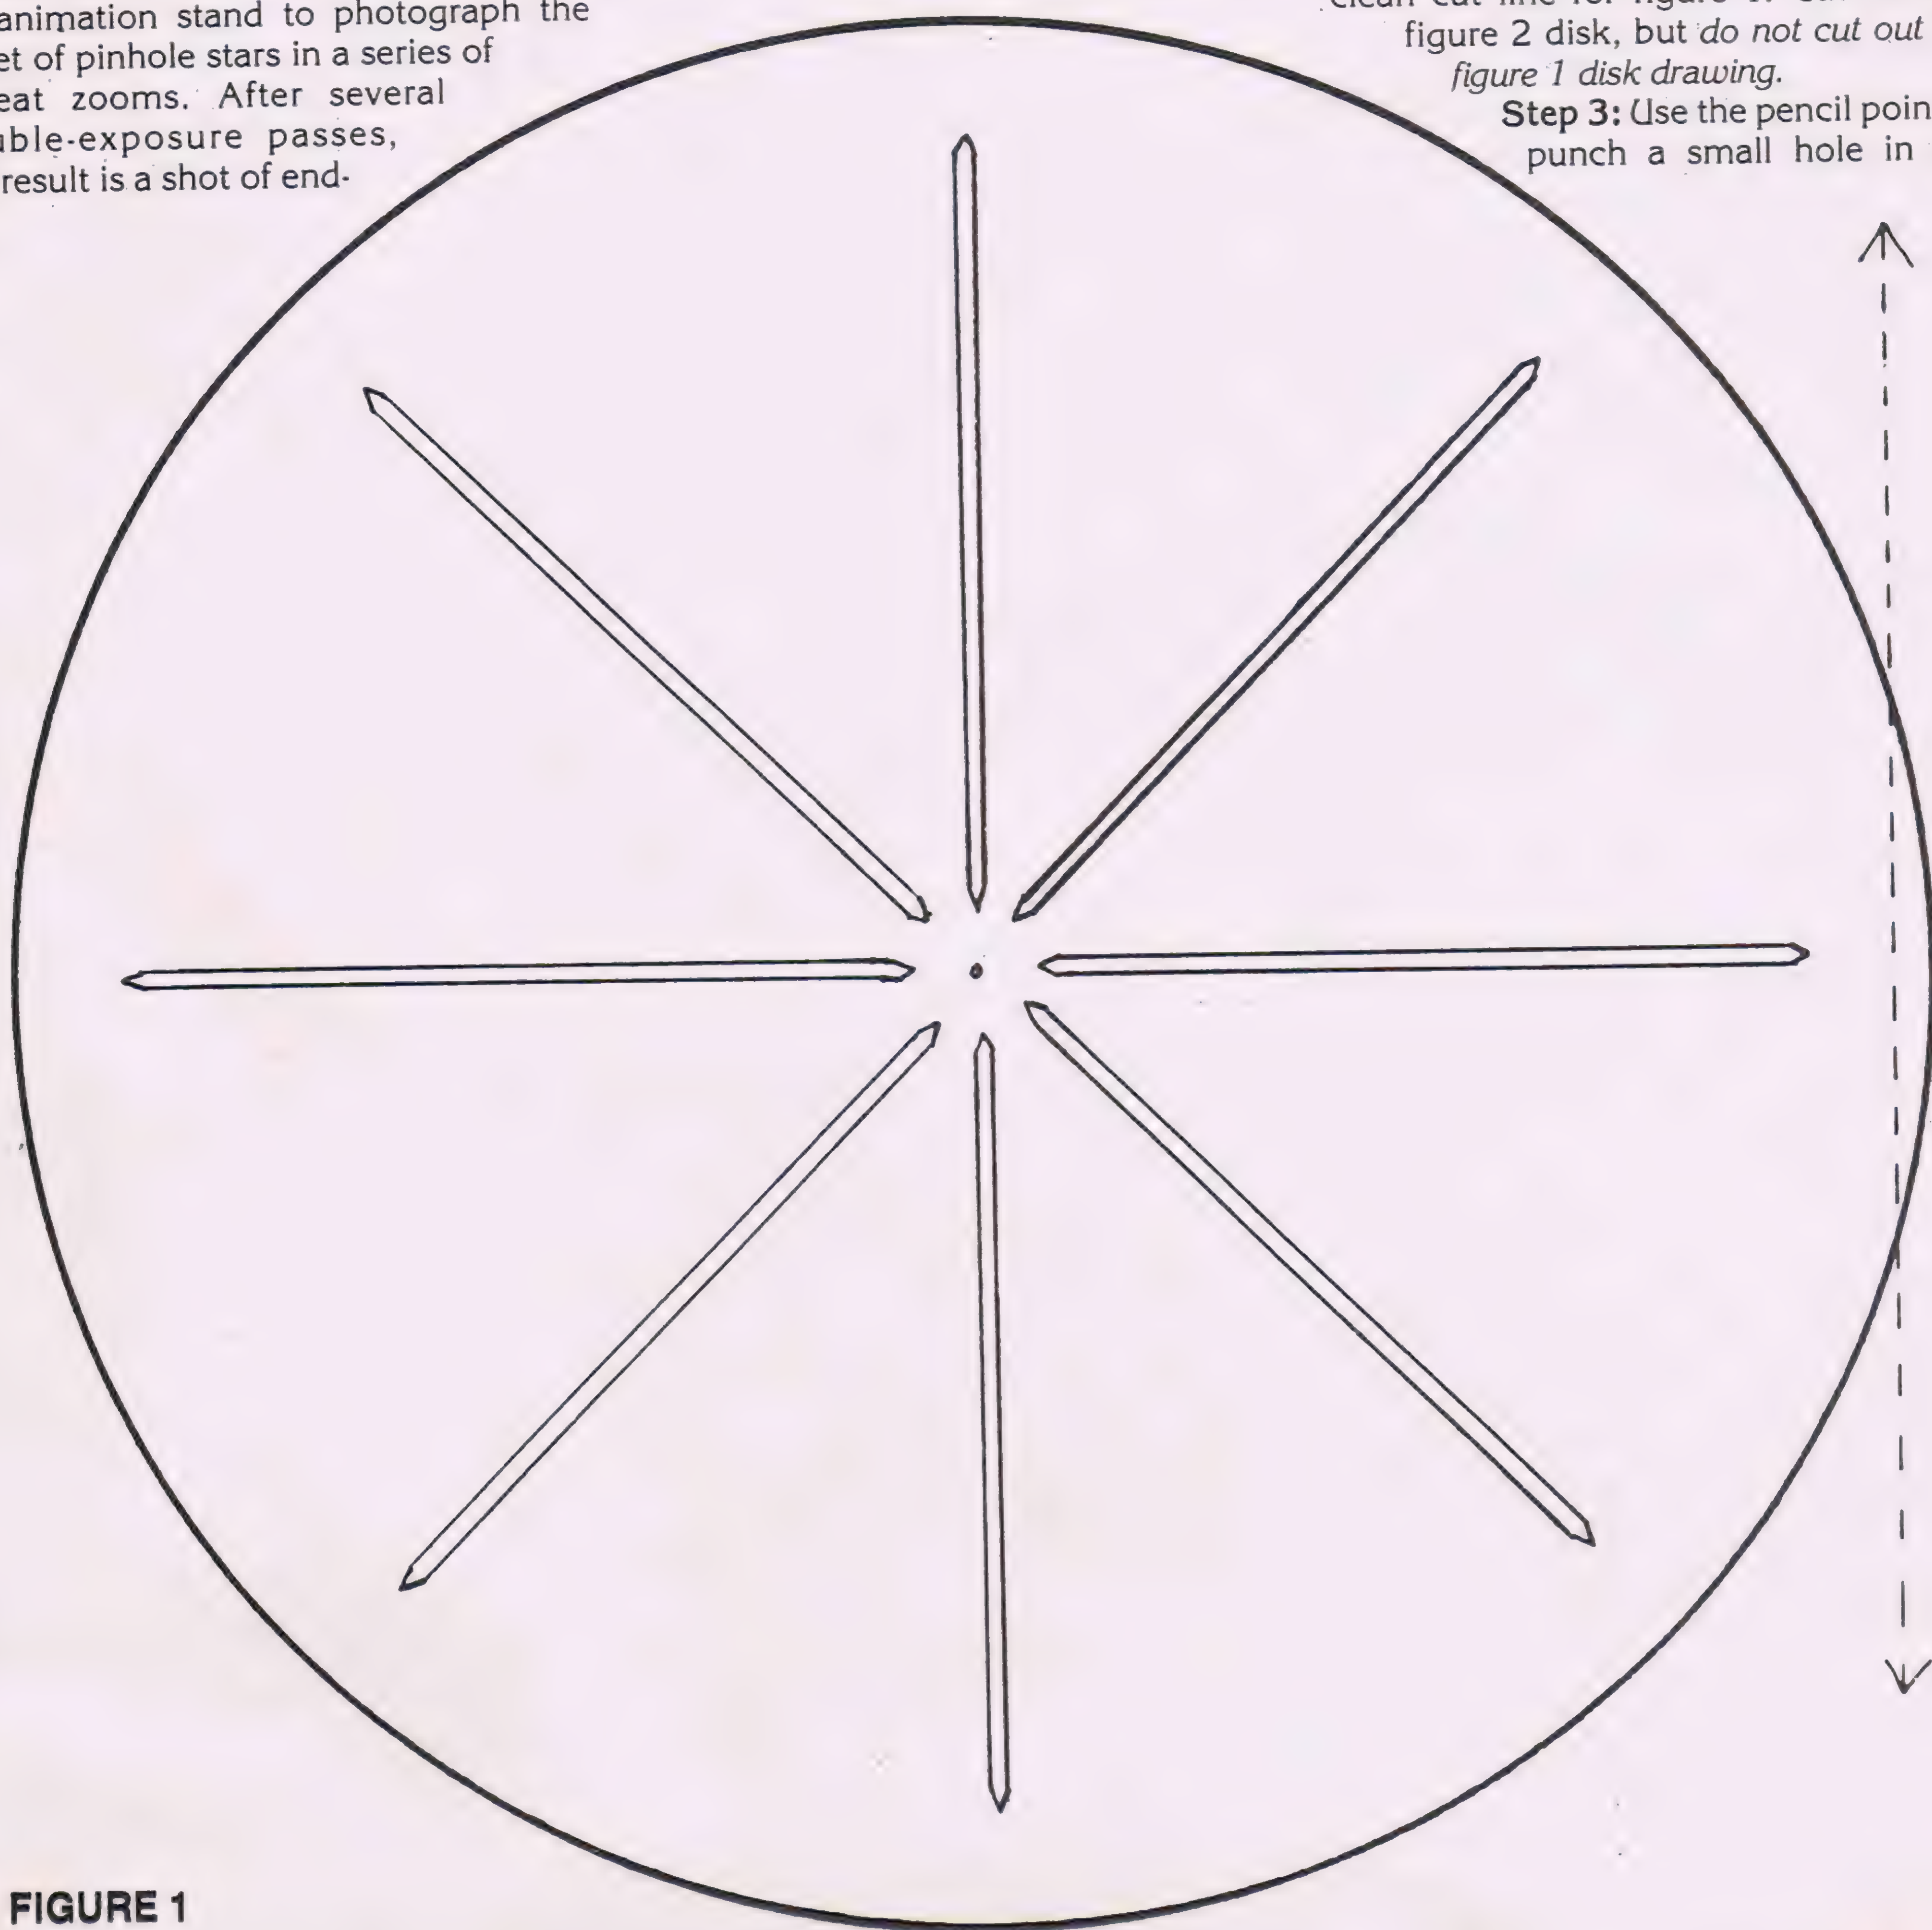
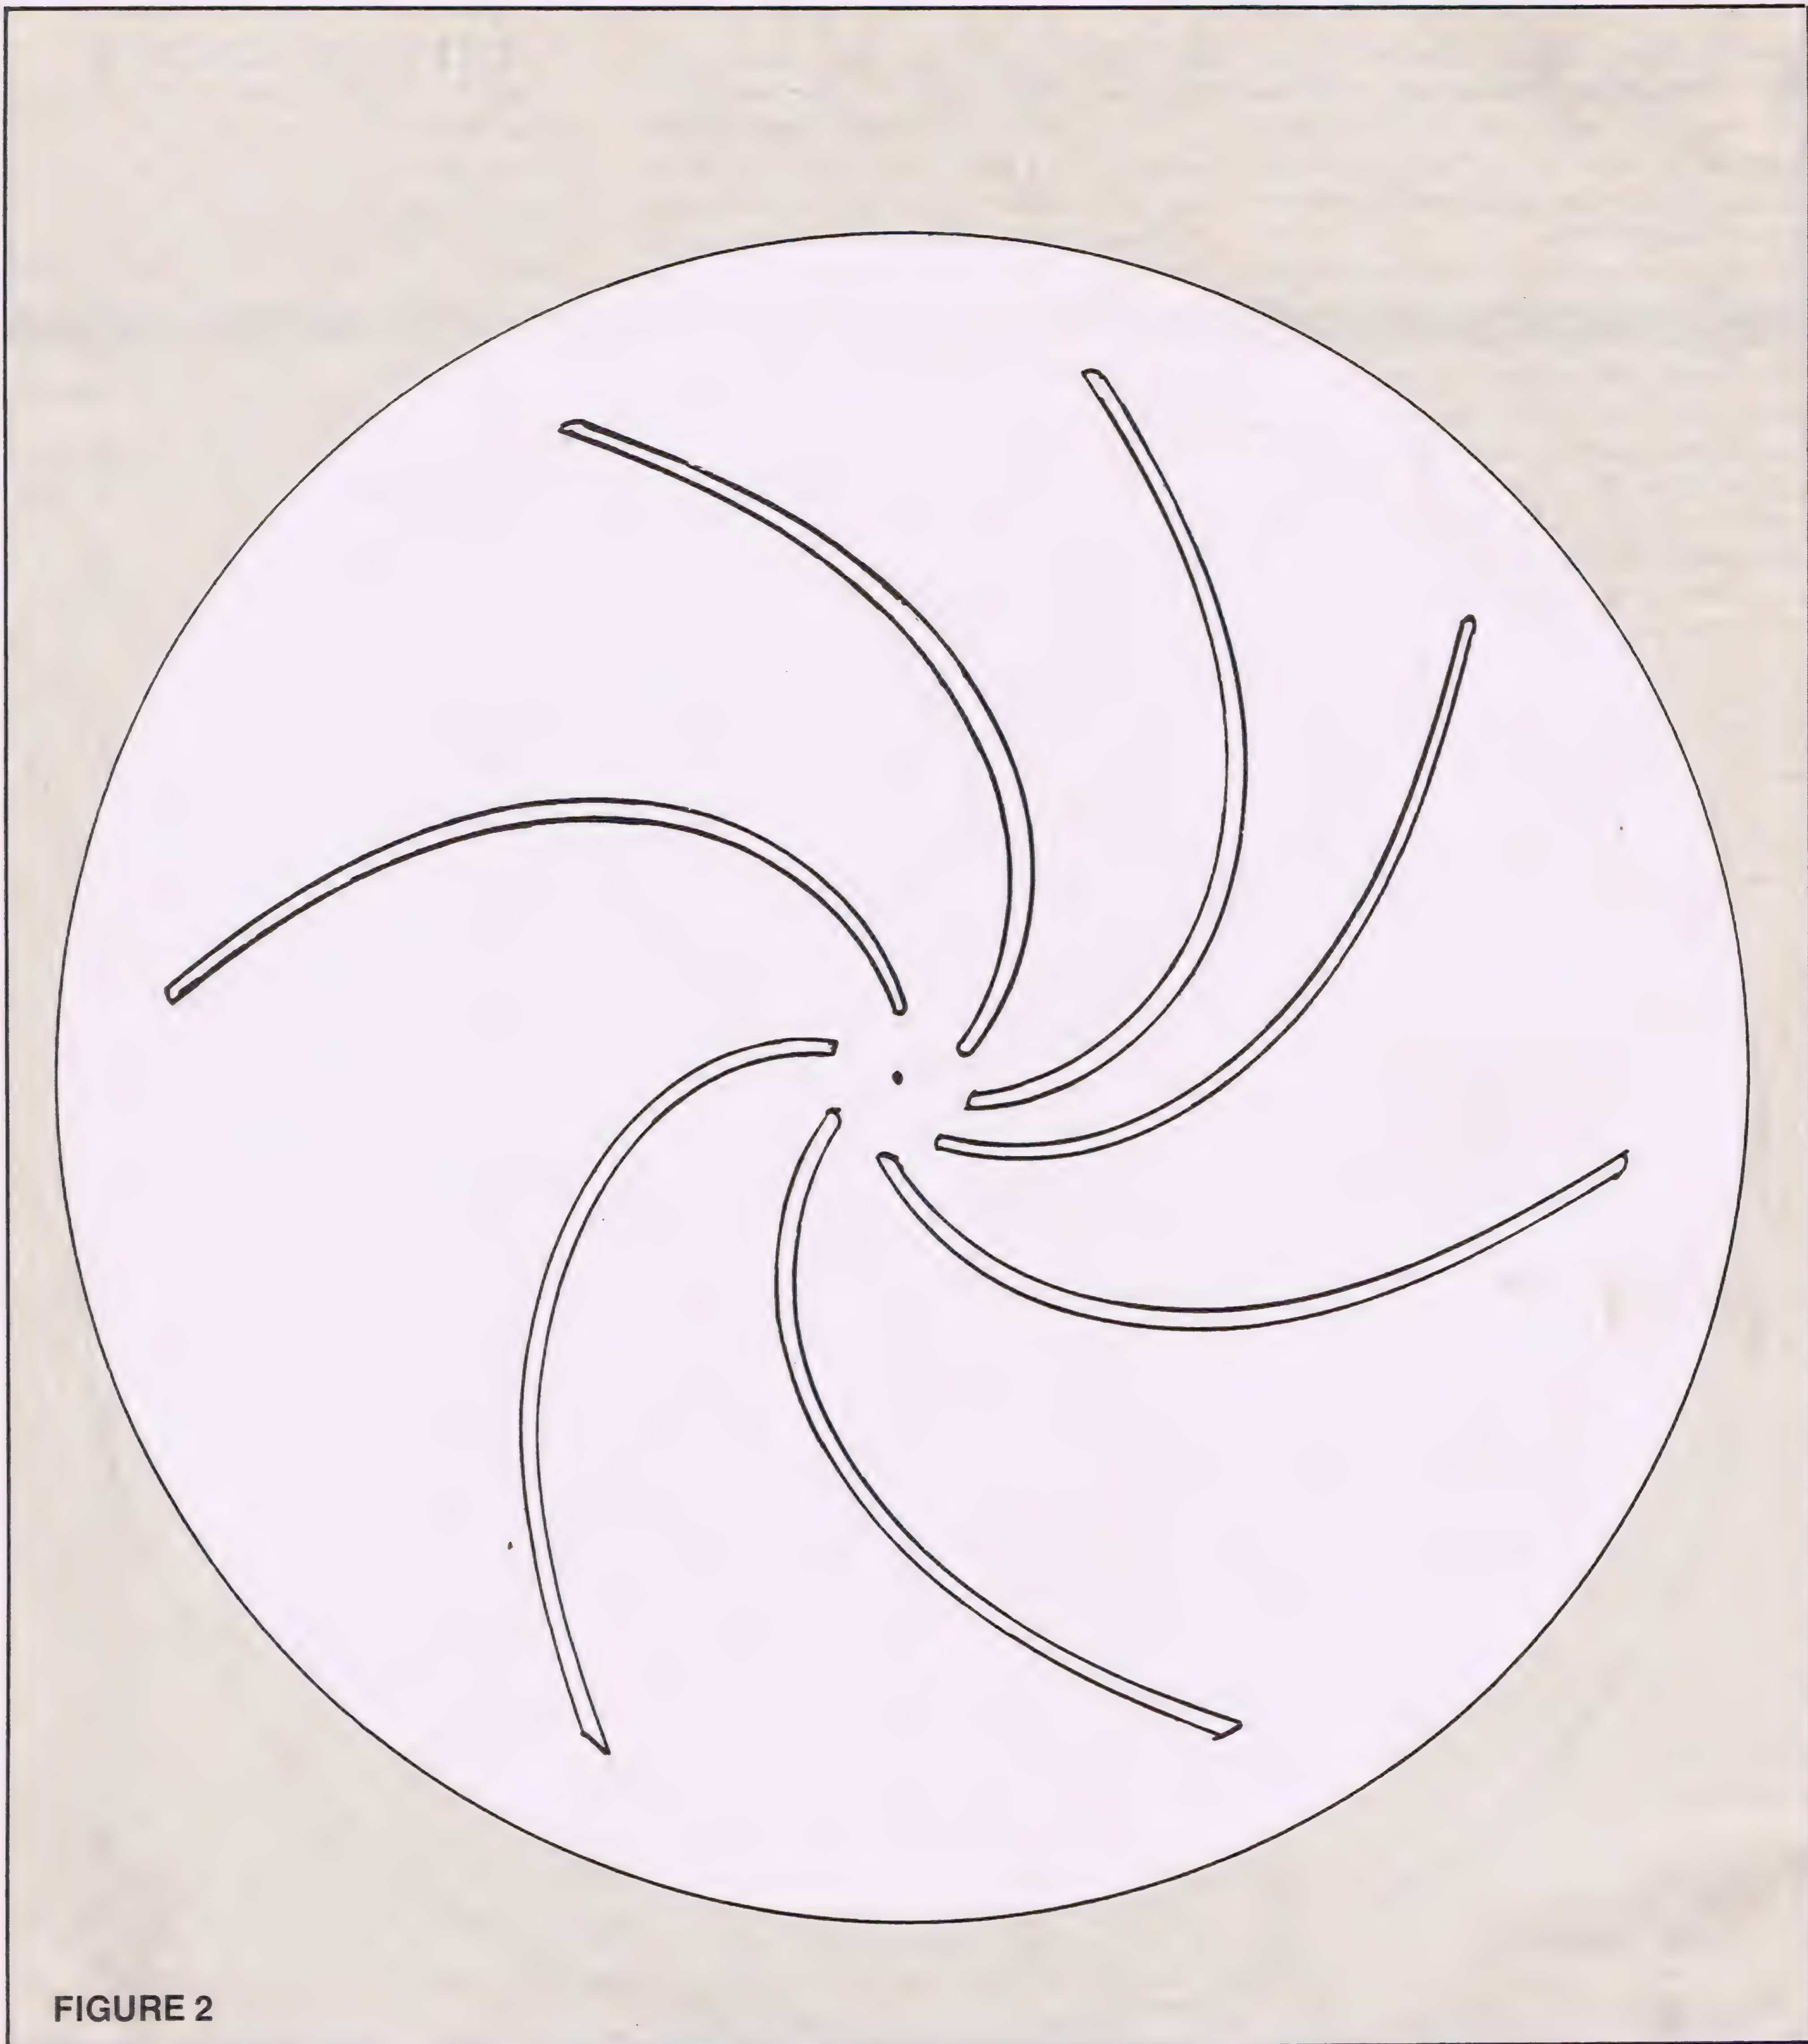

FIGURE 1
FIGURE 2
Step 1: Figures 1 and 2 are full-size master drawings for the two star sheets. Take the drawings to your local "instant printer" and have each drawing Xeroxed onto dark blue or red index card stock.
Step 2: Cut out the inner slots in both figures 1 and 2. Use an art knife to assure a clean cut line for figure 1. Cut out the figure 2 disk, but *do not cut out the figure 1 disk drawing.*
centermark of figures 1 and 2. This hole will later be used for the brass paper fastener.
Step 4: With black felt tip pen or broad nib dry marker, *blacken both sides* of figures 1 and 2. This is the easiest way to assure that the disks will be dark enough to prevent light from filtering through the paper later. Make sure you have a newspaper or old magazine beneath the sheets as you work to avoid the ink "bleeding through" the paper onto your good tabletop.
1 sheet. Place the figure 2 disk against 1 and push the fastener shank through the figure 2 center hole. Spread the fastener shank to firmly anchor the two sheets together. Work the figure 2 disk back and forth to enlarge the centerhole slightly to permit the disk to rotate freely.
Step 1: The large sheet of Figure 1
serves as the support for the figure 2 disk. The side opposite the disk is the side to be photographed. The entire sheet must be backlit for proper "star" exposure. However, first you must make an additional cut on the figure 1 sheet. Cut a portion out of the Figure 1 sheet at the line indicated by the dashed line in the original figure 1 drawing. Use scissors and make sure you don't cut the figure 2 disk accidentally. This will give you a slight edge of the disk beyond the sheet so you can rotate the disk with your fingertips.